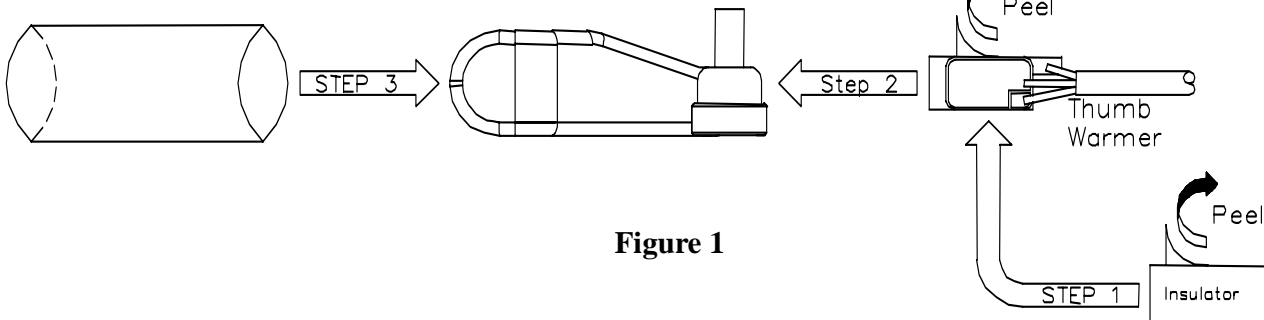

Figure 1
(Refer to Figure 1)
- 3.Slide shrink tubing over end of throttle and position to cover warmer and insulation (Figure 1). (The shrink tubing has a 3 to 1 shrink ratio). Use a heat gun,(the preferred method), lighter, or match to heat the shrink tubing. If you use a lighter or match, remove the throttle to allow rotation for more even heating. Be careful not to overheat in one area as this can split or burn the shrink tubing. Reinstall throttle if necessary.